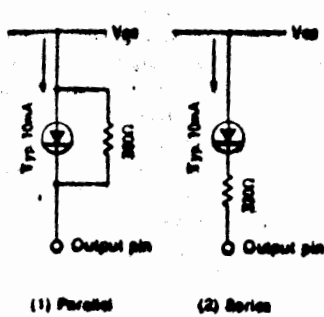

Fig. 11
By changing the time constant of  $C_1$  and  $C_2$ , the response time (attack time and release time) may be varied.  $C_2$  is a coupling capacitor. The input level is adjusted by means of  $VR_1$ .  $VR_1$  is adjusted so that any arbitrary level input will become the 0dB point. To limit LED current, as shown in Fig. 11 (1), a resistance is connected in parallel with the LED or, as shown in Fig. 11 (2), a resistance is connected in series with the LED. In addition, for the method shown in Fig. 11 (2), LED current will vary depending upon the supply voltage variations.